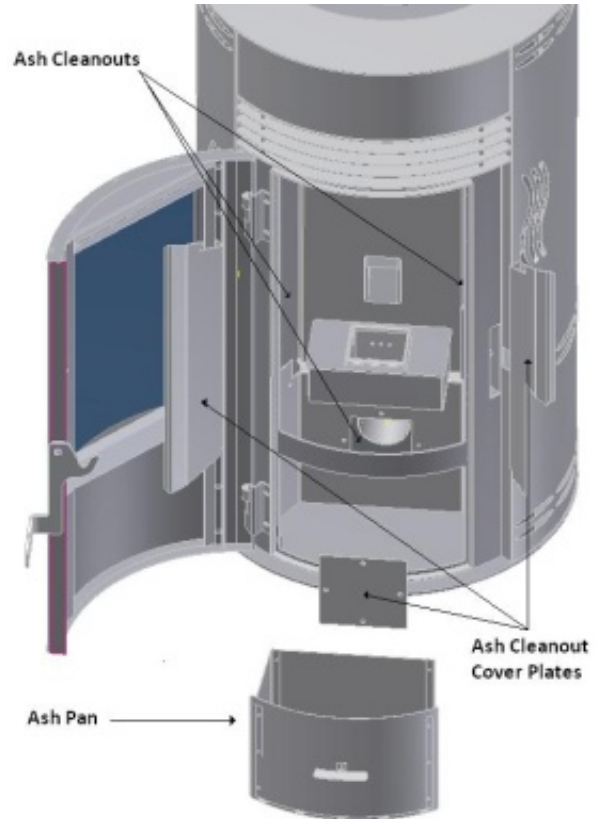

FIGURE 18
- a. **Interior Chambers** – The two ash doors in the firebox in the Breckwell Solstice can be removed for periodic cleaning (refer to figure 18). These doors allow access to the chamber behind the firebox.